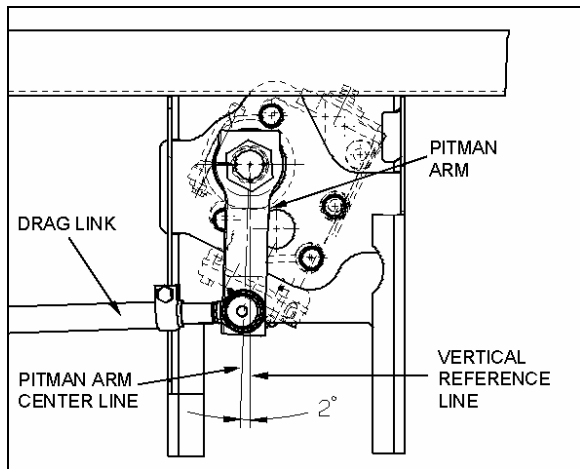

FIGURE 20: PITMAN ARM ALIGNMENT
2. Afterwards, the pitman arm should be adjusted with reference mark aligned or to an angle of 2° in relation with the vertical axis (Fig. 20).